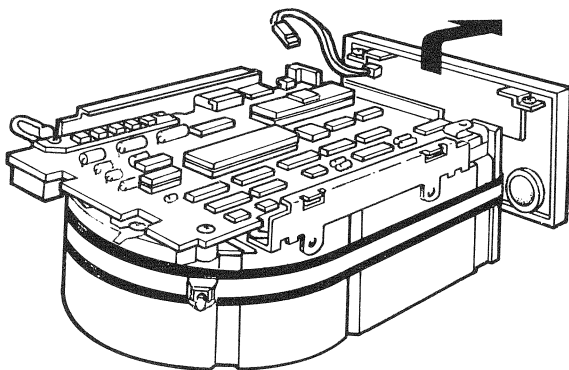

Figure 10-11 Front Bezel Removal
4. Remove the front bezel by pulling it away from the drive. The bezel is held in place with pop fasteners (Figure 10-11).